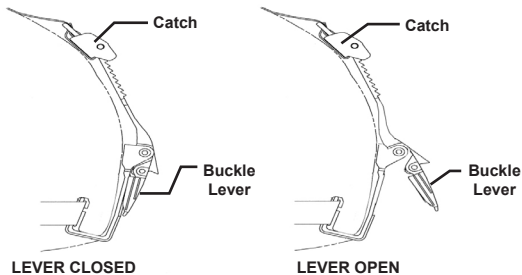

Figure 4-8. Buckle and Catch
3. With the buckle-lever open, take up the slack in the strap using catch. Close the buckle lever. (See Figure 4-8.)